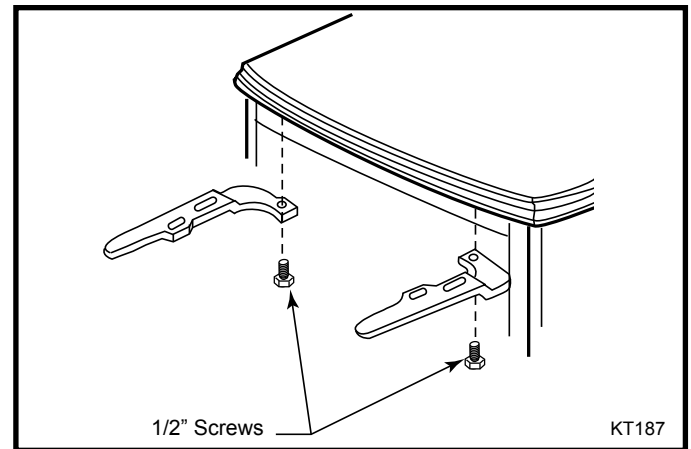

Fig. 2 Attach brackets to threaded holes in top plate.
1. Screw the flat brackets to the stove. Pass a 1/4"-20 x 1/2" hex-head cap screw up through each bracket and into the threaded hole in the stove's top plate. (Fig. 2) Tighten the screws enough to secure the brackets, but keep them loose enough for the brackets to move slightly.